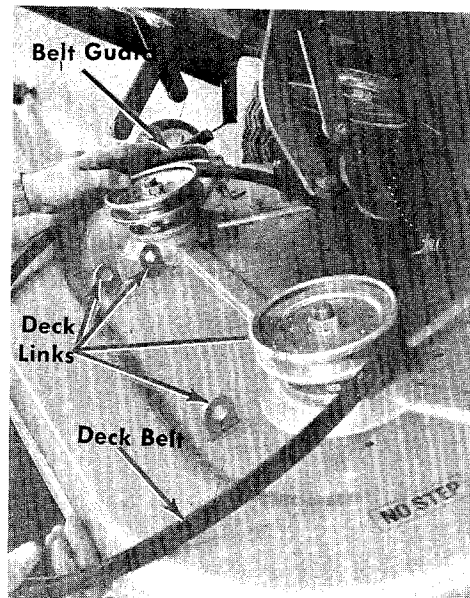

FIGURE 30. DECK LINKS
- Step 6. Remove the front four deck links from the cutting deck. See figure 30.
- Step 7. Remove the belt guards from both deck pulleys. See figure 30.
- Step 7. Tip the deck down as shown in figure 30.
- Step 9. Removing the transmission belt. See figure 30.
- Remove the transmission pulley by removing the hex nut and washer. See figure 30.